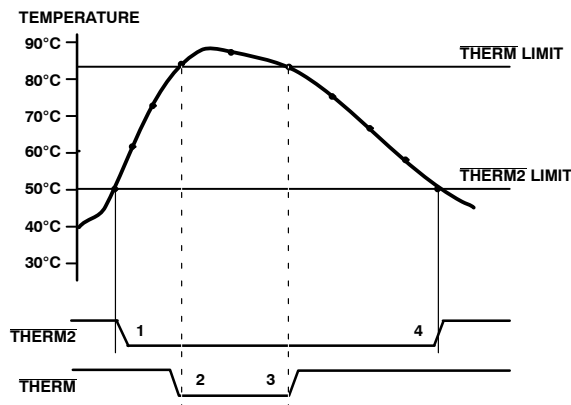

Figure 20. Operation of the $\overline{\text{THERM2}}$ Interrupts
Figure 20 shows how $\overline{\text{THERM}}$ and $\overline{\text{THERM2}}$ operate together to implement two methods of cooling the system. In this example, the $\overline{\text{THERM2}}$ limits are set lower than the $\overline{\text{THERM}}$ limits. The $\overline{\text{THERM2}}$ output is used to turn on a fan. If the temperature continues to rise and exceeds the $\overline{\text{THERM}}$ limits, the $\overline{\text{THERM}}$ output provides additional cooling by throttling the CPU.
- The $\overline{\text{THERM}}$ output deasserts (goes high) when the temperature falls to $\overline{\text{THERM}}$ limit minus hysteresis. In Figure 20, there is no hysteresis value shown.